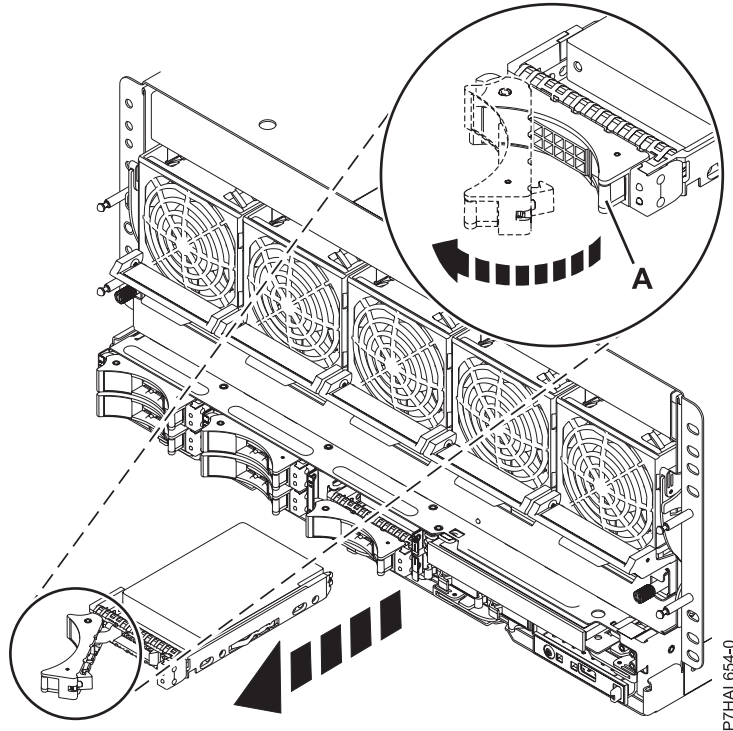

Figure 17. Removing a disk drive from the system
3. When the identify LED turns on solid, unlock the drive handle by squeezing it and pulling it out toward you, as shown in Figure 17 on page 31. If the handle is not all the way out, the disk drive or solid-state drive cannot slide out of the system or out of the expansion unit.